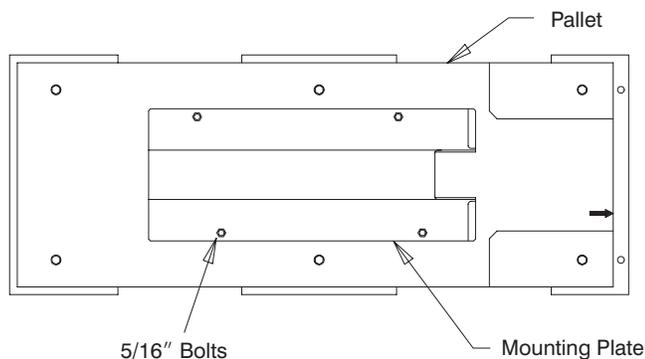

Figure 23. UPS with I/O Mounting Plate
3. Remove the mounting plates from the pallets (see Figure 23).